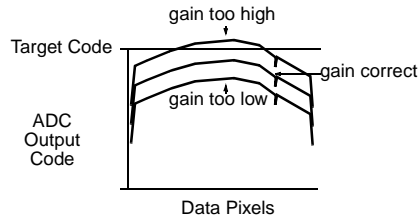

Figure 11: CCD Input Signal In Range
- Program the PGA value for each color so that the maximum white pixel is close to, but still less than the Target Code (Figure 11). The PGA gain required to meet this condition is equal to the Target Code divided by White_{MAX}. Using the PGA